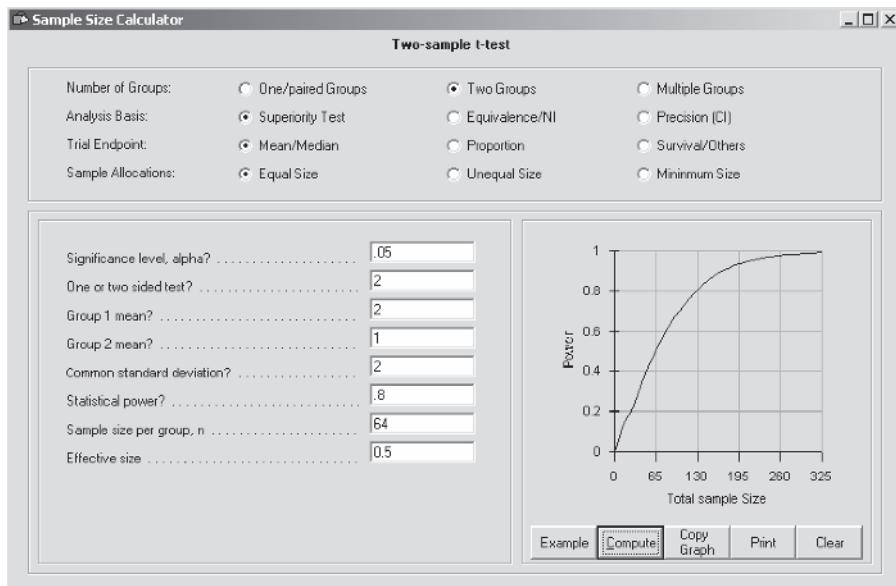

Figure 1.3 Classical design window.
- Click  to save the design specification or report (see Figure 1.3).